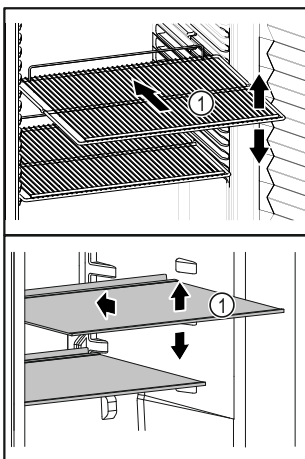

Fig. 9 Example illustration
- If storage surfaces Fig. 9 (1) are movable, adjust them according to height.